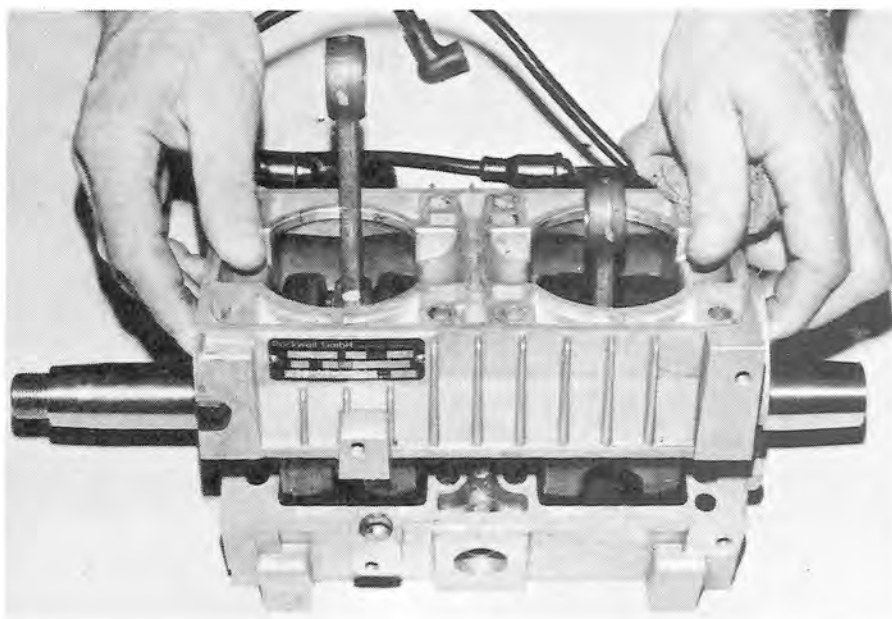

FIG. 1-22
- K. To separate the crankcase halves, hold upper portion of crankcase assembly in one hand, lifting slightly and tap the end of the crankcase with a soft hammer. The crankcase will separate and the crankcase may be removed. See Fig. 1-22.